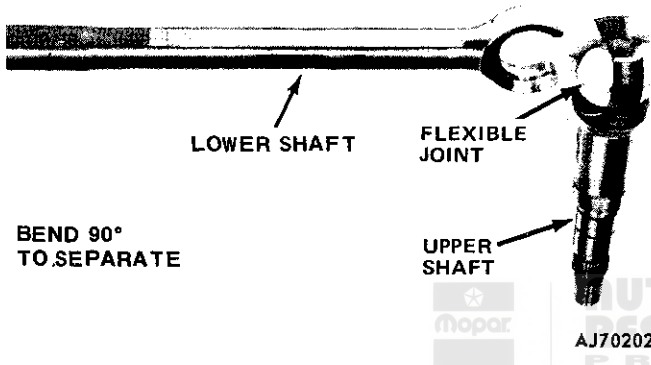

Fig. 2J-39 Steering Shaft Assembly
(37) Remove lock shoes and lock shoe springs.
(38) Disconnect steering shaft at intermediate shaft coupling. Remove steering shaft through upper end of column.
(39) Disassemble steering shaft by folding shaft at 90° and separating upper and lower halves of shaft at flexible joint (fig. 2J-39).